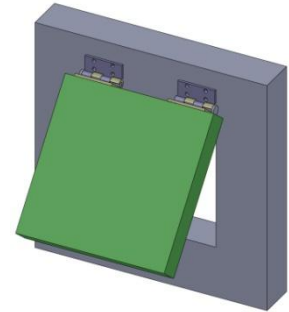

Figure 13
**Begin by opening up the hatch assembly created in Chapter 6, as shown in Figure 13.**